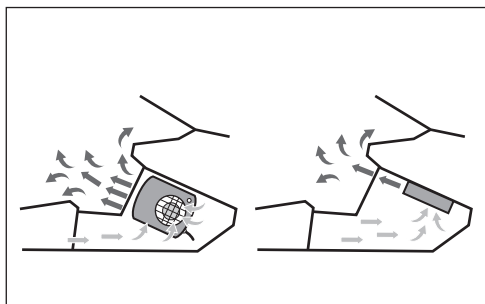

Fig. 1
- Mount the product to a suitable location inside the vehicle, e.g. to the center console [Fig. 1] or underneath the glove compartment, using the mounting plate and observing the minimum distances.